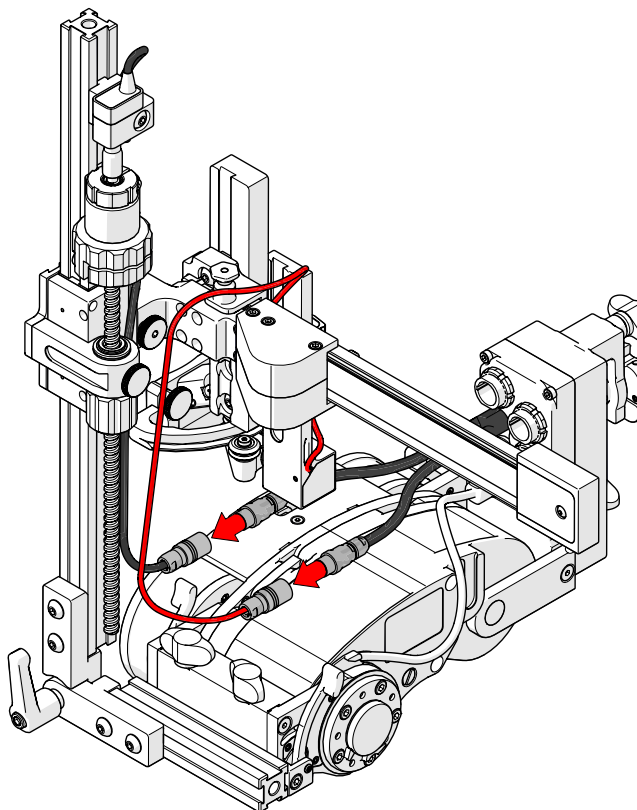

Fig. 195 - Connect encoder cables to 3-axis encoder cable
12. Using the cable clips, route the encoder cable from the slider pps to the 3-axis encoder cable (Fig. 195).
13. Using the cable clips, route the encoder cable from the probe holder to the 3-axis encoder cable (Fig. 195).
14. Plug the encoder cables into the 3-axis encoder cable connectors (Fig. 195).